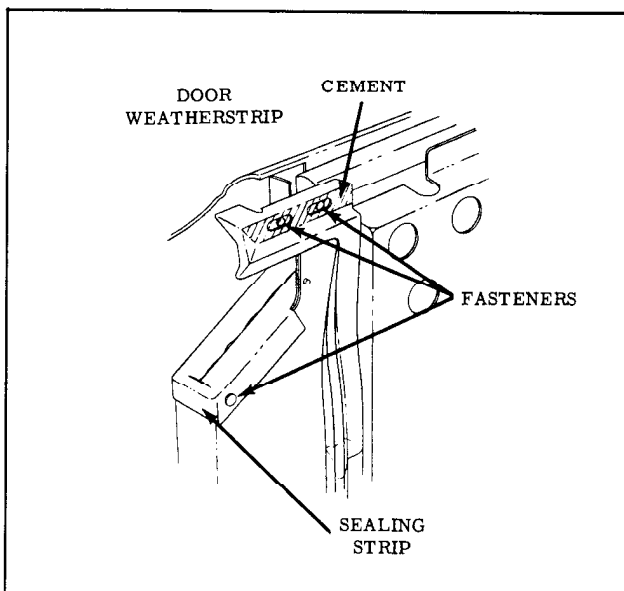

Fig. 17-15 Rear Door Hinge Pillar Sealing Strip (at Belt)
5. At front corner of rear door (at belt), apply weatherstrip cement to facing of formed end of weatherstrip and corresponding surface of door inner panel and cement weatherstrip in place. Replace forward snap fastener only. (Fig. 17-15)
1. Remove snap fasteners securing sealing strip to hinge pillar facing of rear door and remove strip. (Fig. 17-15)